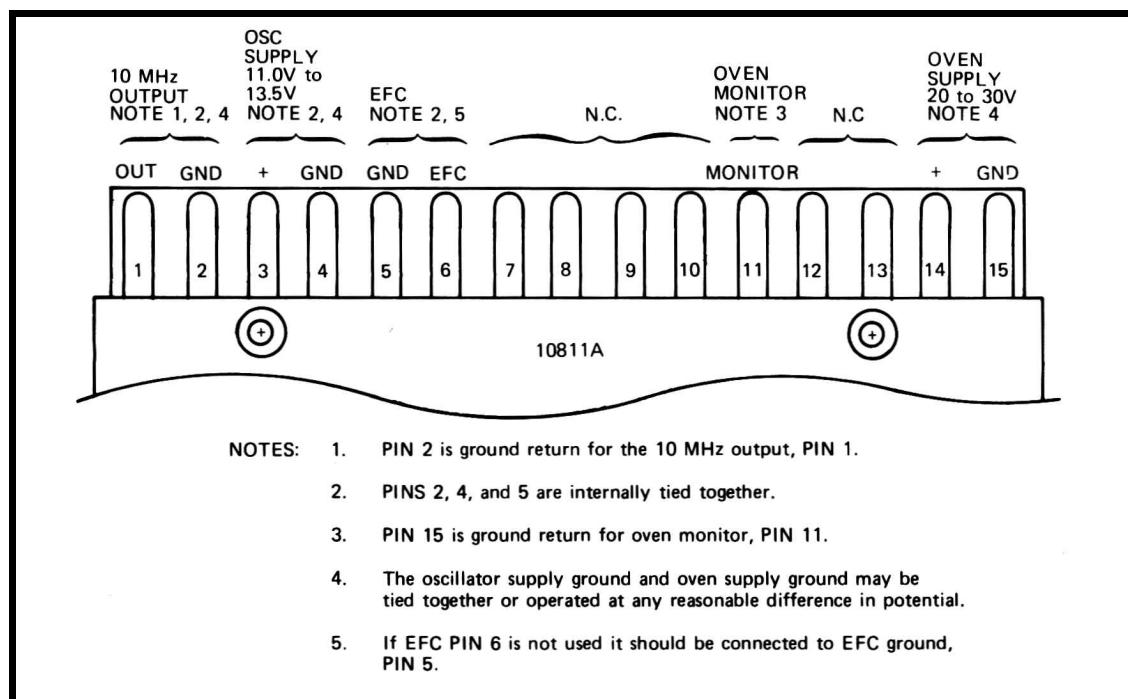
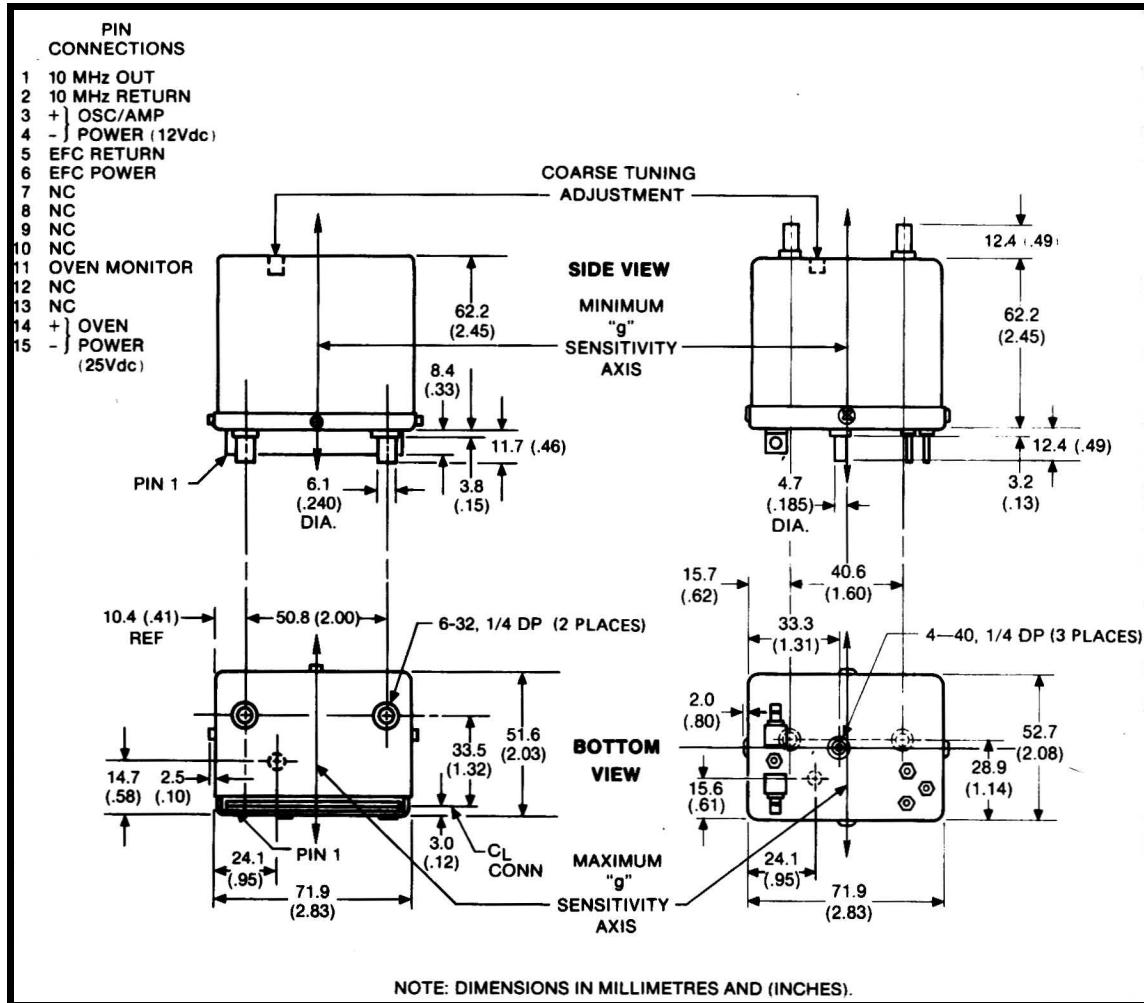

Figure 2-3. 10811A Supply and Output Connections
Figure 2-5. Mechanical Mounting Dimensions
- 2-21. The 10811A Oscillator requires a 0.156" C-C 15-pin printed circuit connector. The recommended connector is the CINCH 250-15-30-210 50-30S-30 (HP 1251-0160), Vishay/Dale (HP 1251-2035) EB81-BN15TGW, EDAC 305-030-500-202 (Mouser 587-307-030) or 305-030-520-202. The 10811A can be secured with two 6-32 screws, 1/4-inch long. Figure 2-3 shows the power supply connection for the 10811A. Figure 2-5 shows the mechanical mounting dimension for the 10811A and 10811B.
- 2-24. Figure 2-5 shows the mechanical mounting dimensions of the 10811A/B Oscillators for use in custom installation. Since all quartz oscillators are sensitive to shock, vibration, radiation fields, and ambient temperature changes, to obtain the best performance from your 10811A/B, these factors should be taken into consideration. To optimize performance therefore:
1. The 10811A/B should be mounted in an area that has a minimum amount of vibration or shock accelerations. In addition, the 10811A/B should be mounted so that the vibrational forces act along the "minimum G sensitivity" axis shown in Figure 2-5.